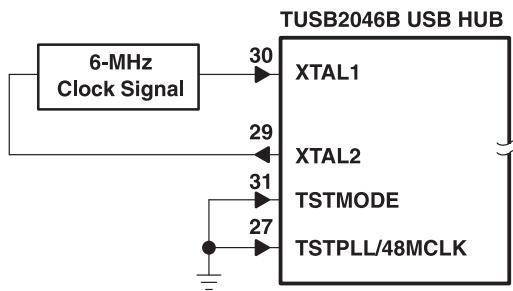

Figure 7. 6-MHz Input Clock Configuration
- A 6-MHz input clock configuration is shown in Figure 7.